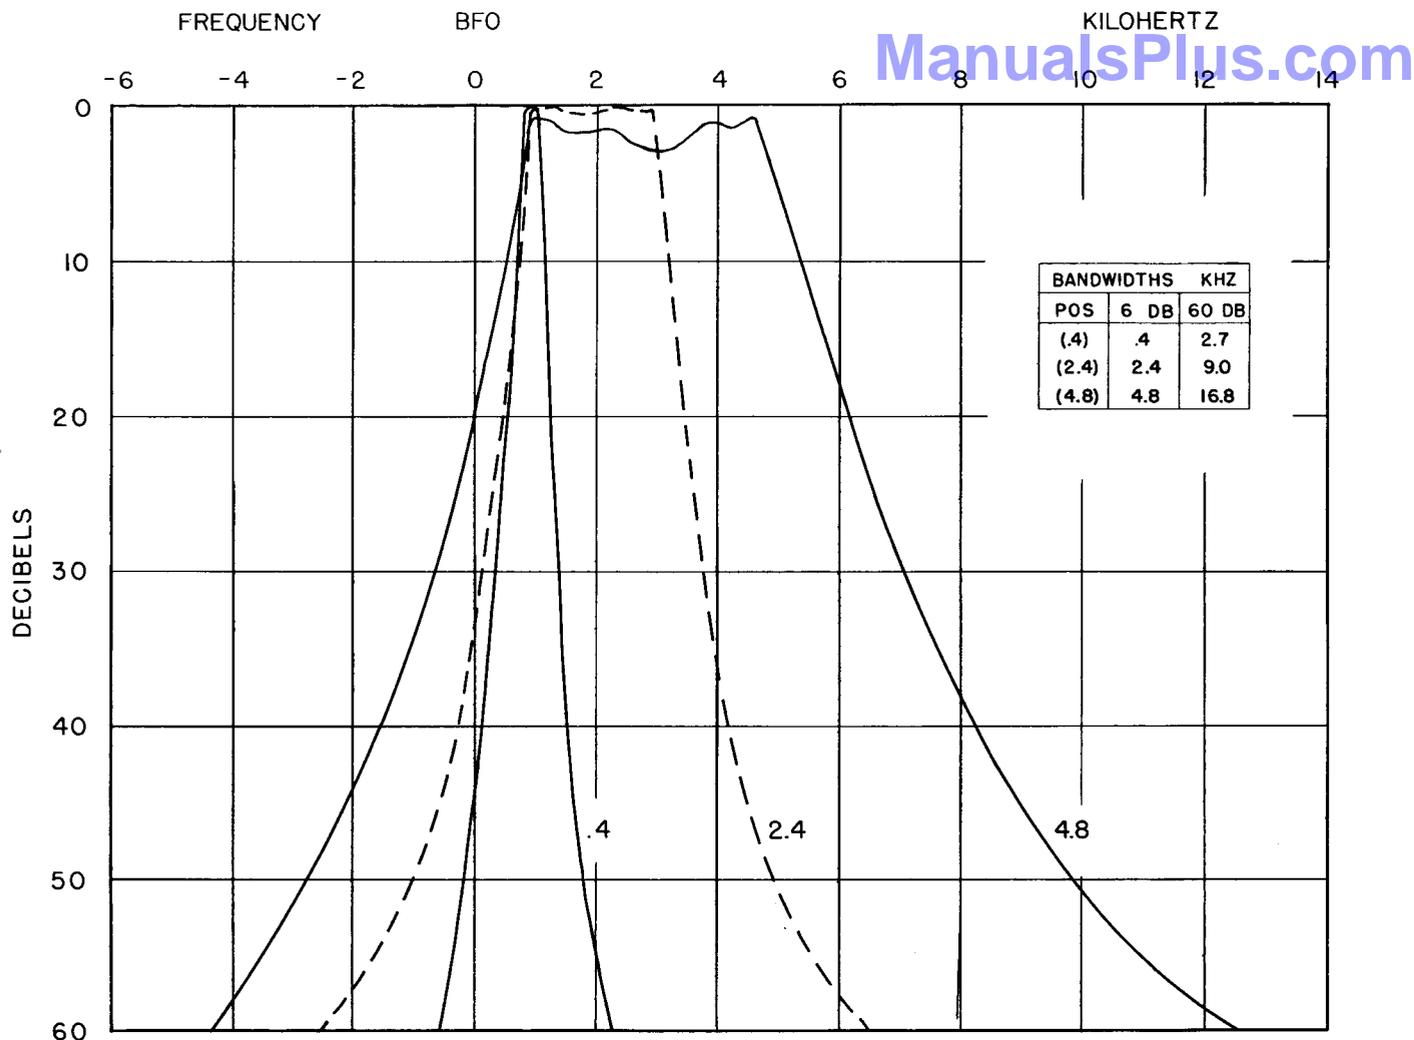

FIG 3-2 2-C SELECTIVITY CURVES
I.F. selectivity is determined by the pass band filter which consists of four tuned circuits of very high Q, tuned to the same frequency. The selectivity switch, switches coupling and shunt capacitance in each tuned circuit to provide three steep sided selectivity curves as shown in Fig. 3-2.